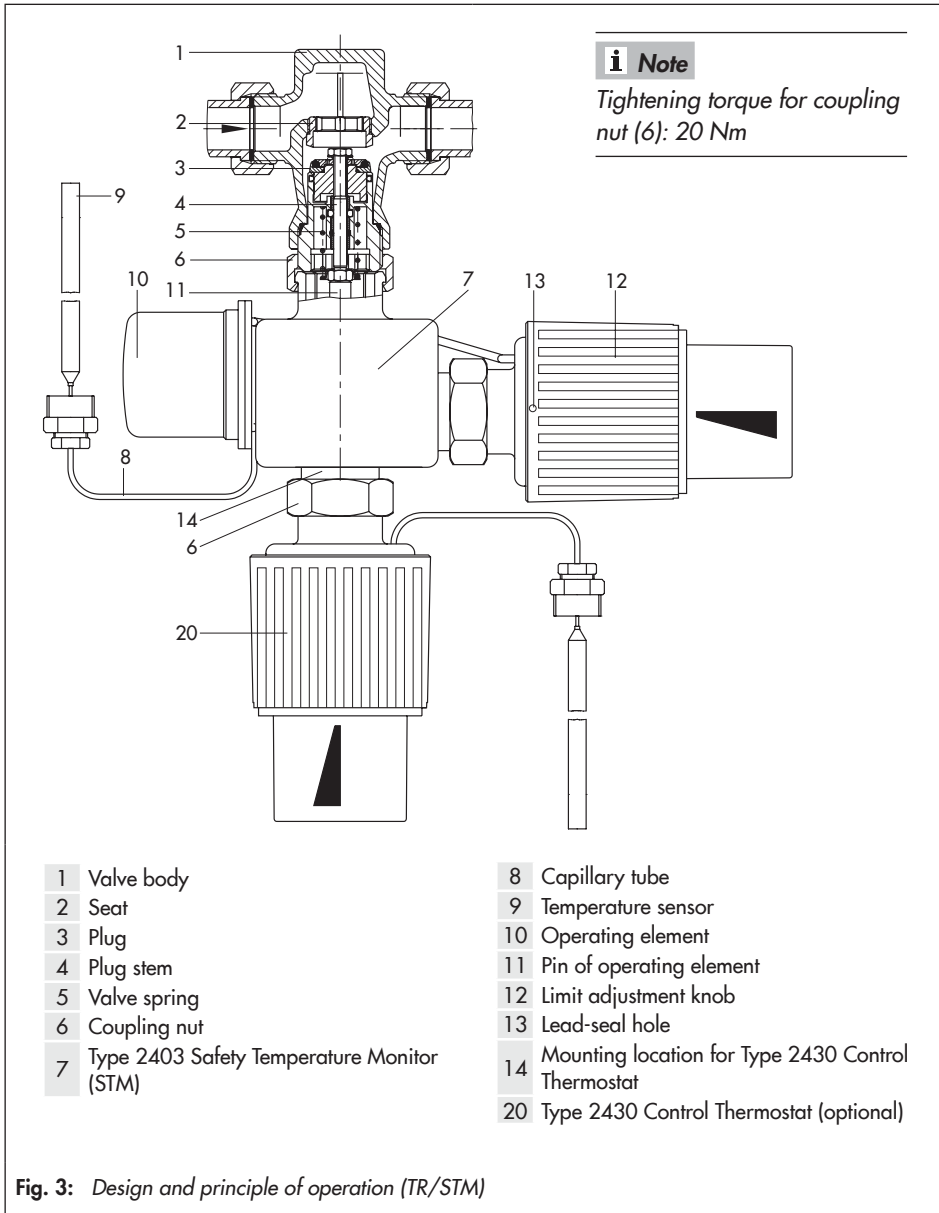

Fig. 3: Design and principle of operation (TR/STM)
The connection of an additional Type 2430 Control Thermostat (20) converts the safety temperature monitor (7) into a temperature regulator with safety temperature monitor (TR/STM). See Fig. 3.